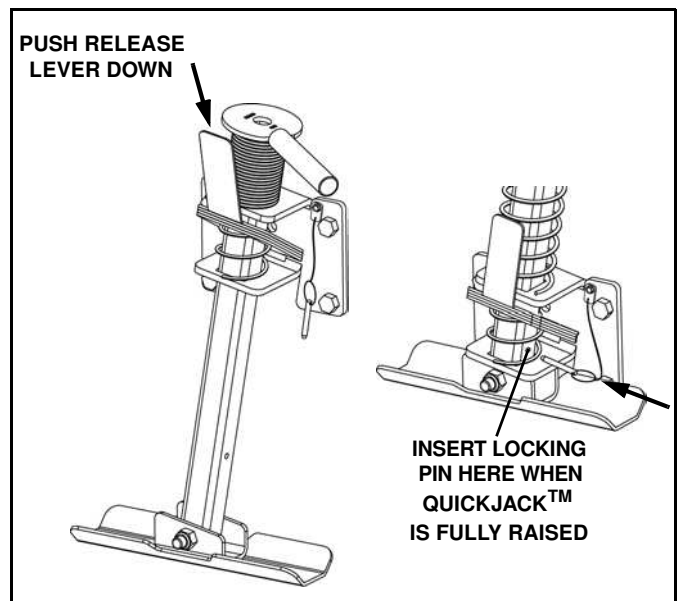

Figure 1-41
4. Raise QuickJack™ foot by pushing down on its release lever. Insert the locking pin in the QuickJack™ tube to prevent the jack from dropping during transport or plowing operations. (See Figure 1-41).
6. Release the foot, insert the foot locking pin (see Figure 1-41) and connect the lighting harness.